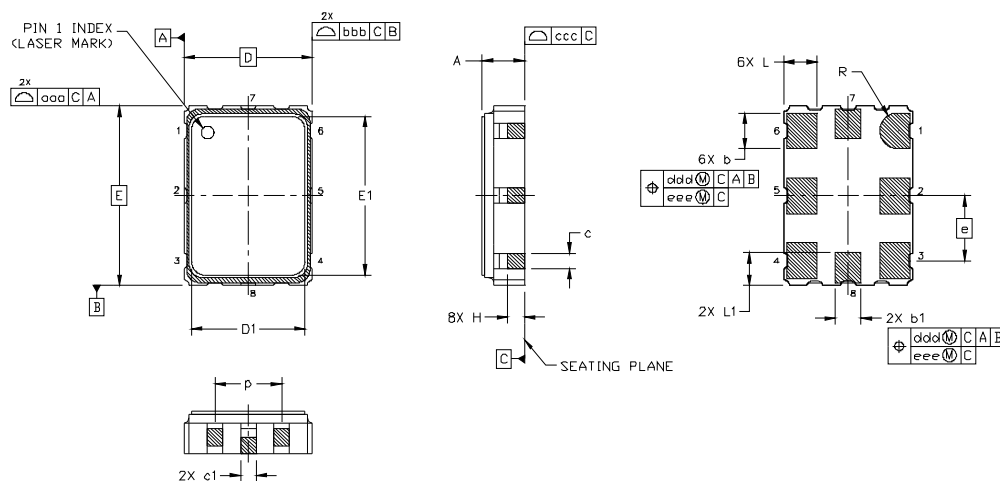

**Figure 7. Si598/Si599 Outline Diagram**
Figure 7 illustrates the package details for the Si598/Si599. Table 19 lists the values for the dimensions shown in the illustration.
- Corrected pin 7 and pin 8 designation in package diagram in Figure 7 on page 24.